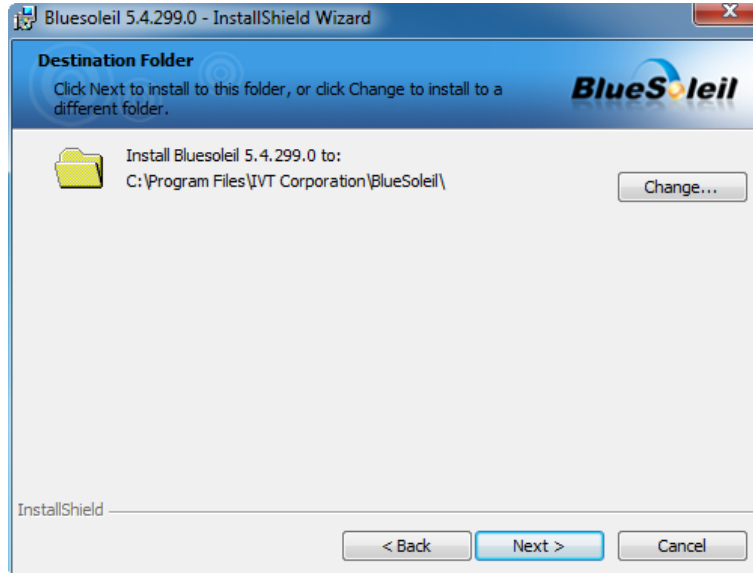

Figure 8-42: Bluetooth Driver Destination Folder
Step 8: Browse for an install location or use the one suggested (**Figure 8-42**) and click **NEXT**.